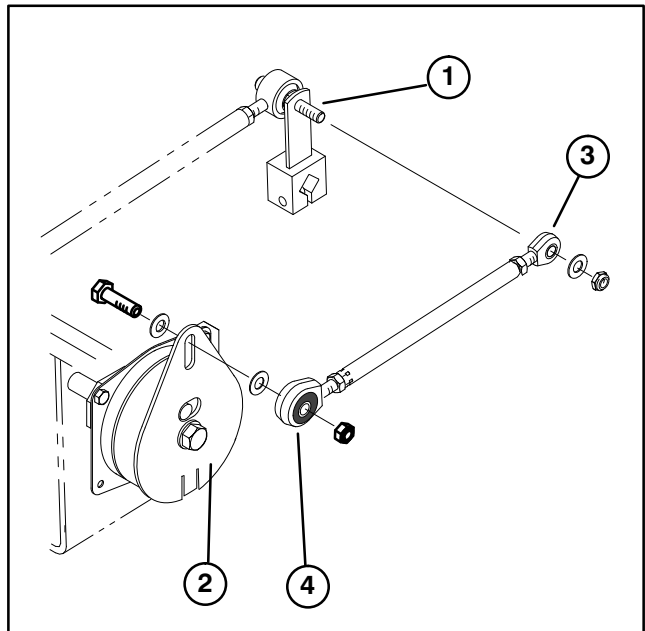

Figure 6
15. Secure ball joint end to traction rod stud with a .375 x .88 x .09 flat washer (included in kit) and locknut previously removed (Fig. 6).
16. Secure rod end to clutch plate with a 3/8–16 x 1–3/8" lg. capscrew, (2) .406 x .81 x .08 flat washers and locknut. Position components as shown in figure 6.
17. Adjust ball joint ends on speed adjust rod so they align with stud on traction rod and slot in top of clutch plate. Coil mount shaft must be located in front of clutch plate slot when adjusted properly. Tighten jam nuts securing adjustment (Fig. 6).